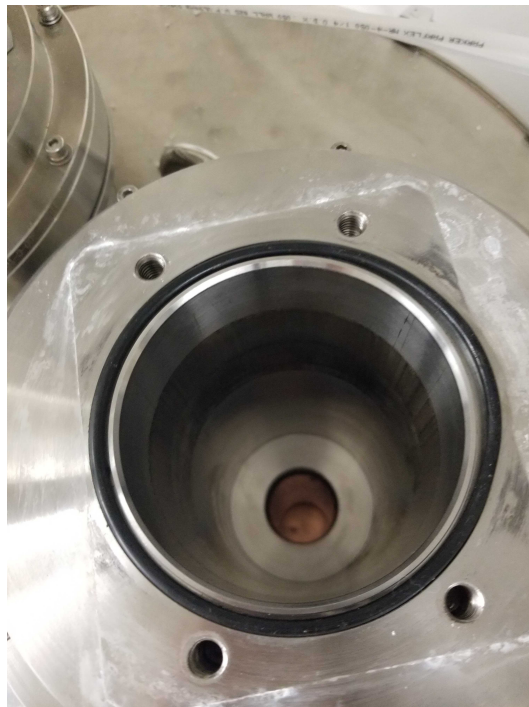

Figure 8: The cold head cylinder before cleaning
4. Clean out to the bottom of the now exposed cylinder using a clean cloth and isopropyl alcohol (Figure 8)